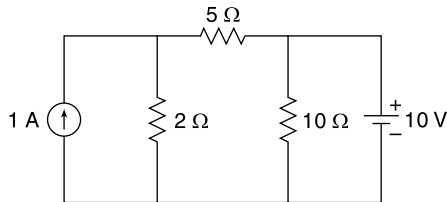

Fig. 4.96 Circuit of Ex. 4.69
4.69 Find the power loss in $10\ \Omega$ resistor using Thevenin's theorem (Fig. 4.96).